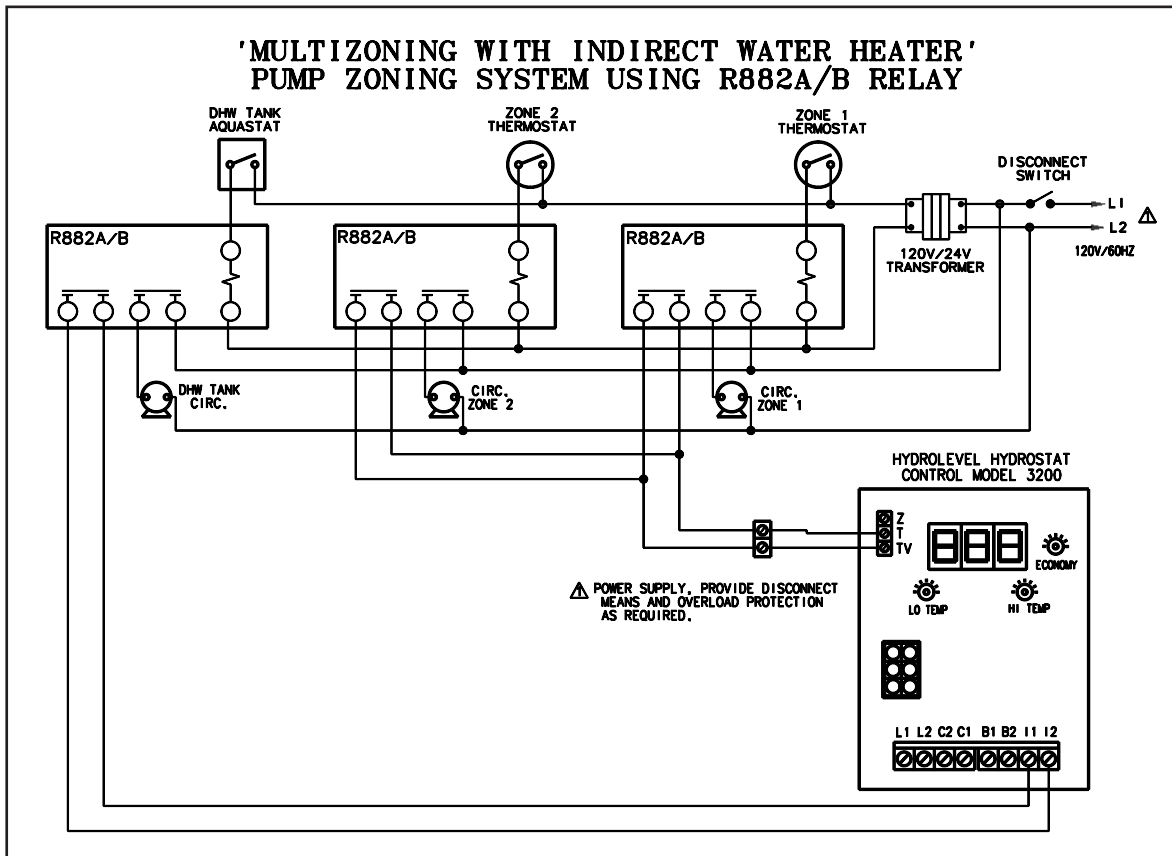

Figure 6. Multizoning of Sentry boiler-2 zone system pump zoning system using R882A/B relays.
If the system includes indirect water heater, the indirect signal must be separated from heating zone(s) system. See figure 6 and 8. Follow steps below:
- c. Power DHW and heating zone(s) circulators through end switch relays as shown on figure 6. Do not connect heating zone(s) circulators to C1 and C2 of the control.